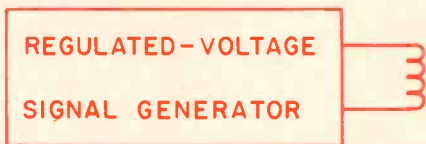

Fig. 6 — A coil is connected to the output of a regulated-voltage signal generator.
When a coil is connected to a regulated-voltage signal generator (Fig. 6), the current (I) flowing